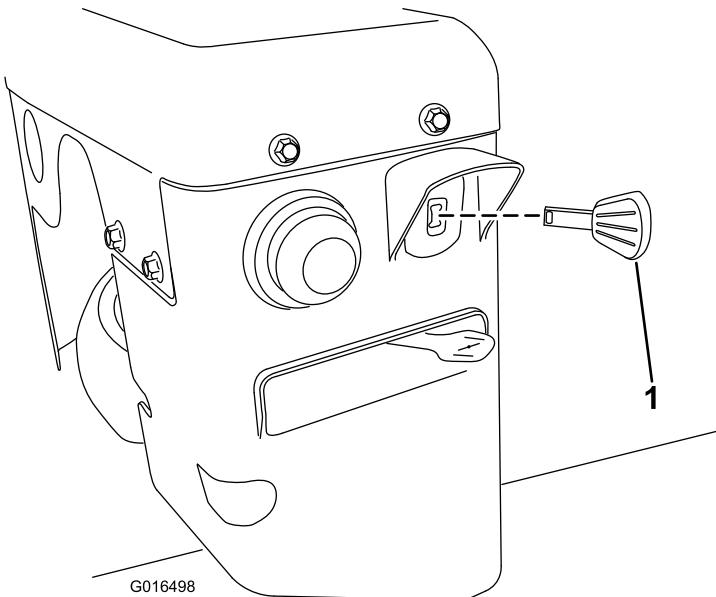

Figure 27
3. Insert the ignition key all the way in (Figure 27).